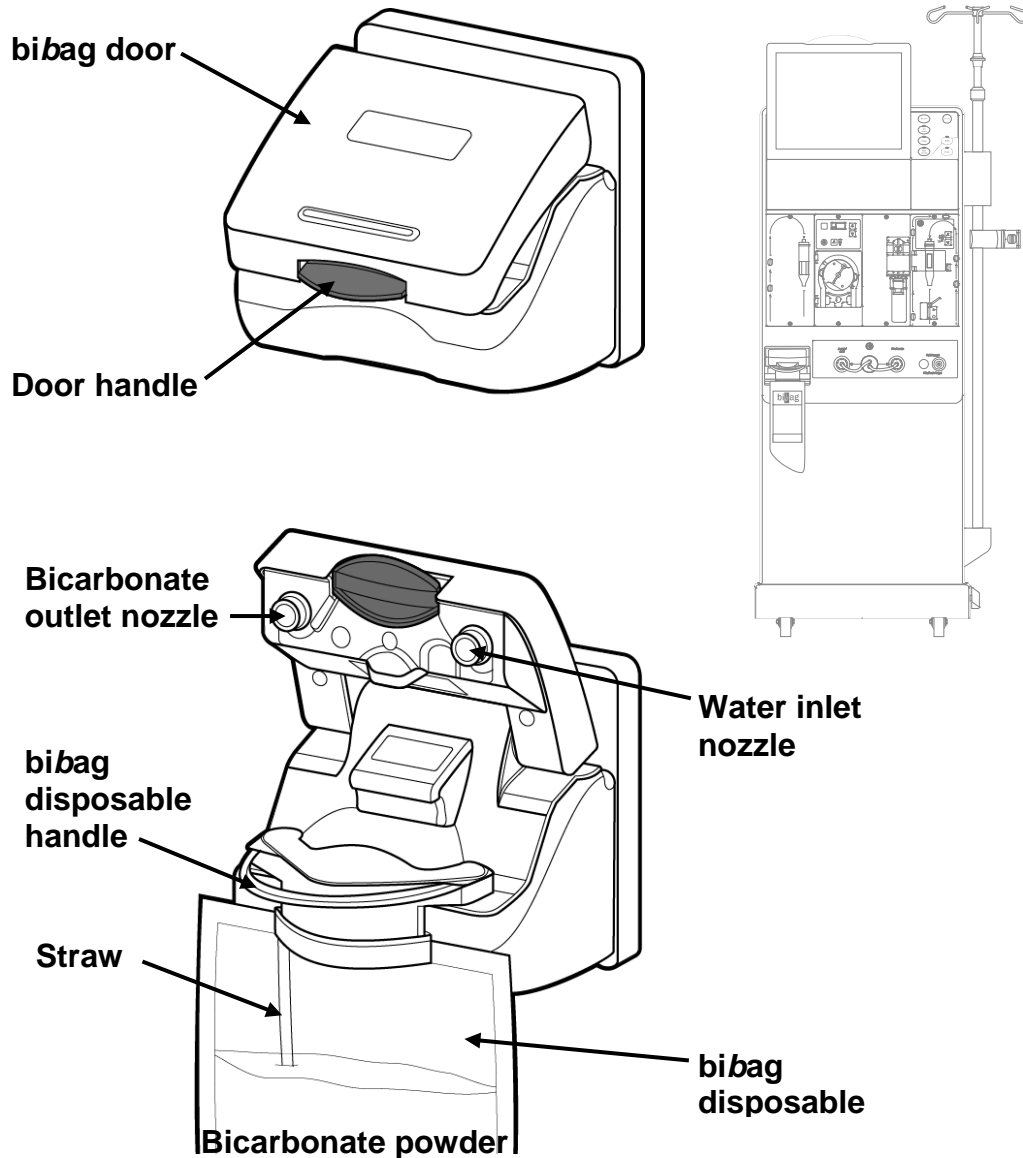

Figure 1 – *bi*bag connector: door closed and *bi*bag disposable inserted with door open
4. With the white *bi*bag handle facing outward (see Figure 1), hang the *bi*bag disposable on the *bi*bag connector nozzles. Push it down until it is fully seated on the *bi*bag connector nozzles.